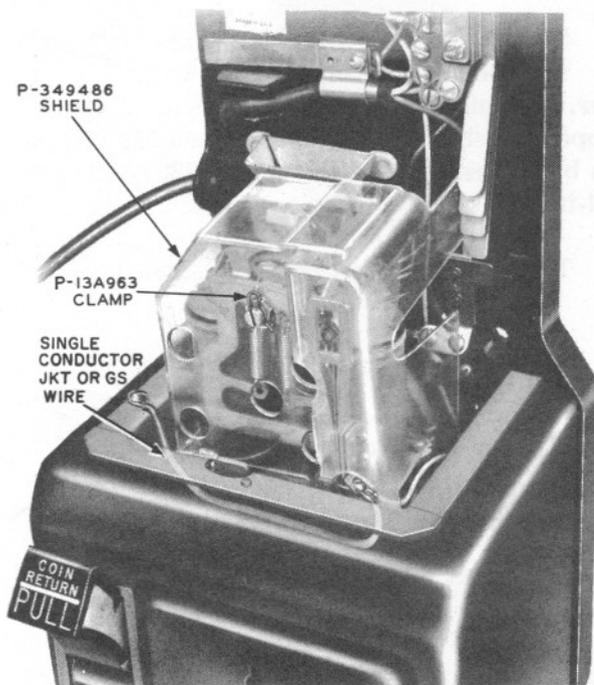

Fig. 6 — Method of Grounding Backplate Assembly, Open-type Installation
- On prepay open-type installation, coin collector backplate assembly shall be grounded by connecting a single conductor of JKT or GS insulated wire between coin relay ground termination and mounting screw on left side of mechanism base (see Fig. 6). Lockwasher under mounting screw shall be removed. Dress wire so that it will not interfere with placing of coin relay shield.
7.03 Plastic shield is held in place with a P-13A963 clamp (furnished with shield). Clamp is slipped down over front pivot screw of coin relay as shown in Fig. 6. Clamp is not used on fiber shield.